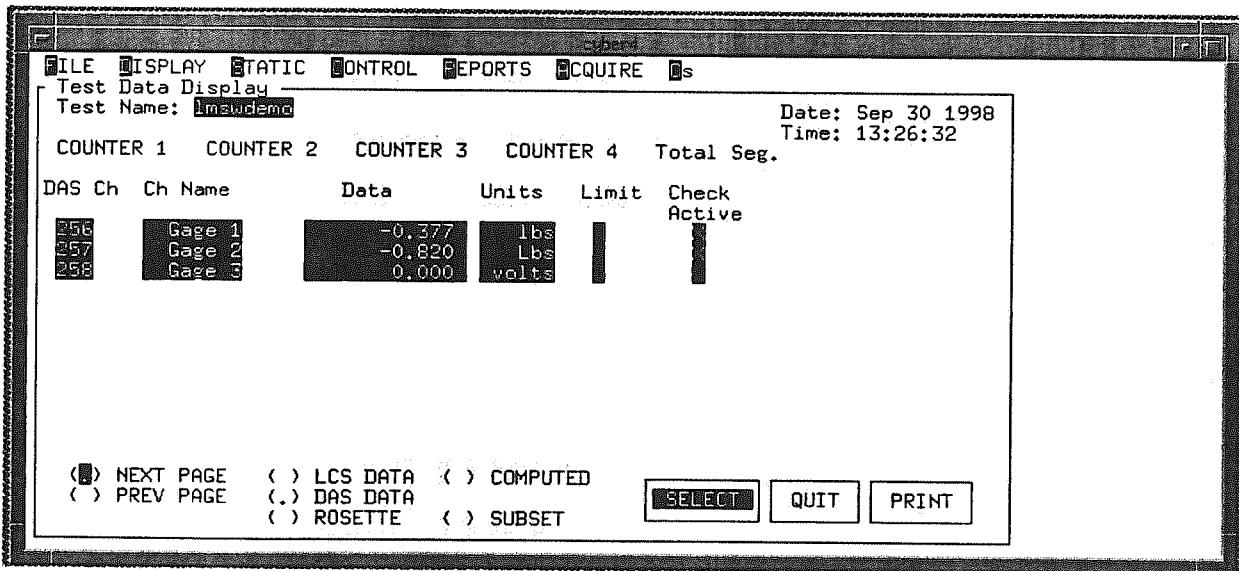

Figure 11-4. DAS Test Data Display
- Step 2:** Select the **DAS** radio button and press **[RETURN]**. The screen shown in **Figure 11-4** is displayed: